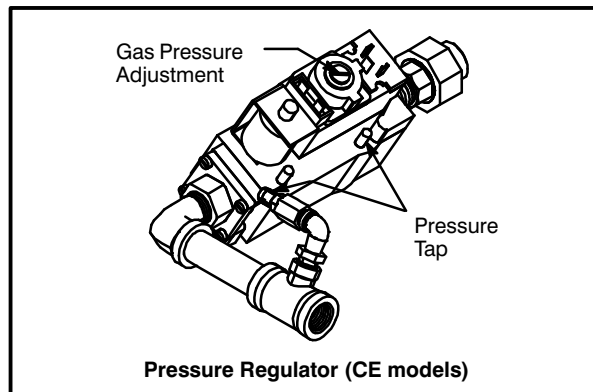

FIGURE 3
6. Adjust gas pressure if necessary. See FIGURE 3.